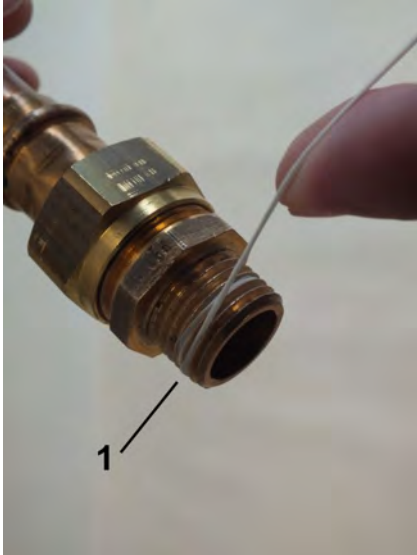

Fig. 10: Apply sealing thread
2.  Apply sealing thread (Fig. 10/1) to the napped thread in the threaded direction. Observe the quantity recommended by the sealant manufacturer.